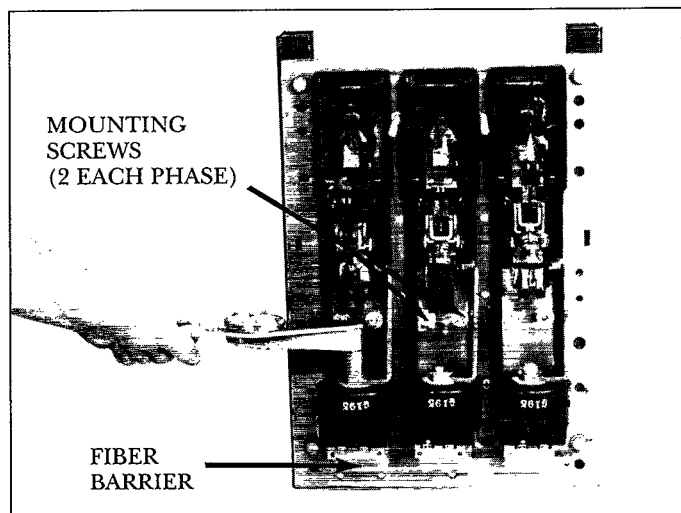

Fig. 10. Tightening the CT Bus Assembly
Mount each of the three CT assemblies to the front of the back frame. Place the insulated barrier provided under each copper assembly. Insert the  $\frac{1}{4}$ -20 x 1" screws provided, (2) per phase, through the slots in the bus bars (Fig.10). Fasten them with a plain washer, lock washer, and nut on the top side.
Use a torque wrench to tighten the bolts inserted in Step 2. Tighten them to 200 in-lbs.\* (Fig. 10).